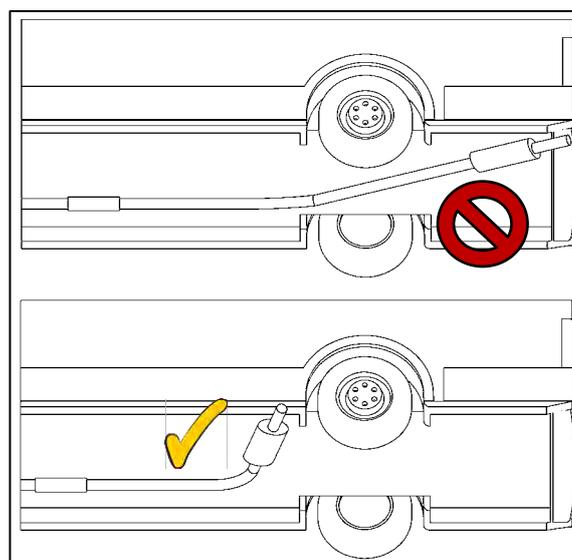

Figure 8
- Be sure to maintain a sufficient distance from heat-sensitive parts. The minimum distance from plastics and cables is 300 mm (see Fig. 8).